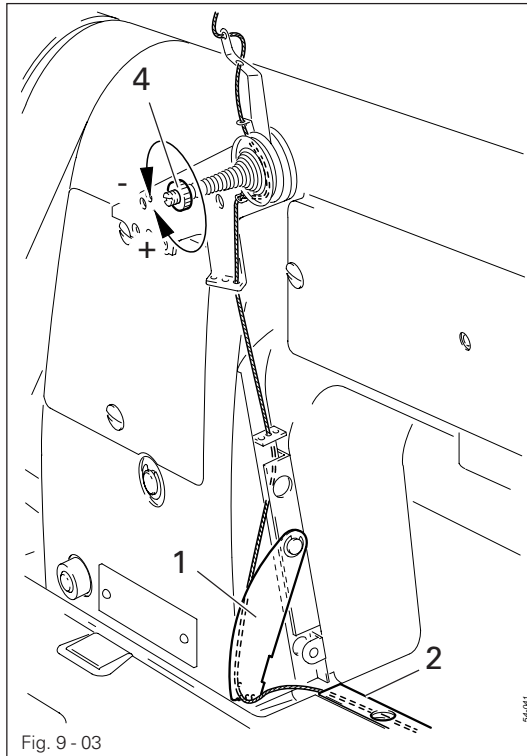

Fig. 9-03
- Thread the looper thread as shown in Figs. 9-03 and 9-04 and pull it under guide plate 2.